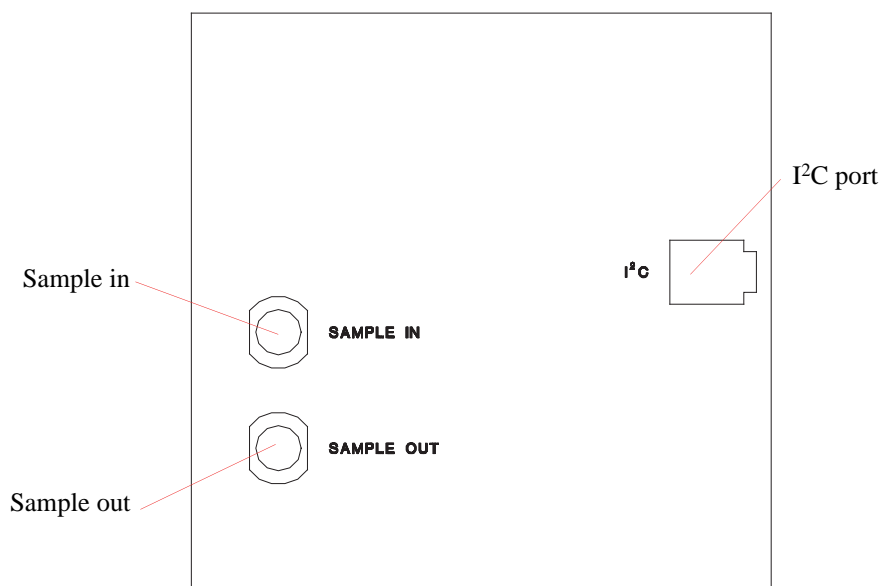

Figure 7.2. pHDetect module back panel
4. Connect the other end of the pHDetect cable to the I²C port on the back of the pHDetect (see Figure 7.2 for the I²C pHDetect port location).